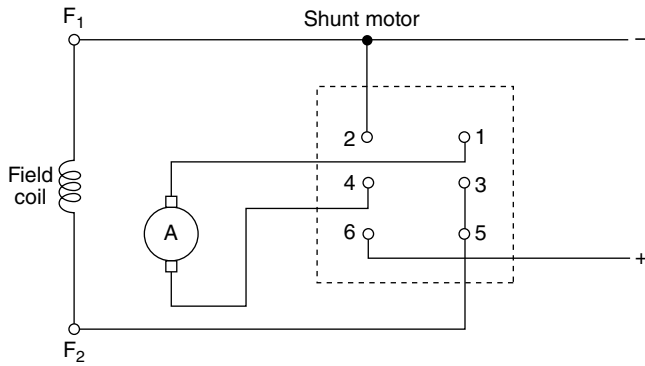

Fig. P-3
3. Using Fig. P-3, draw lines to complete the circuit between the switch terminals to cause the shunt motor to run in the *forward* direction.